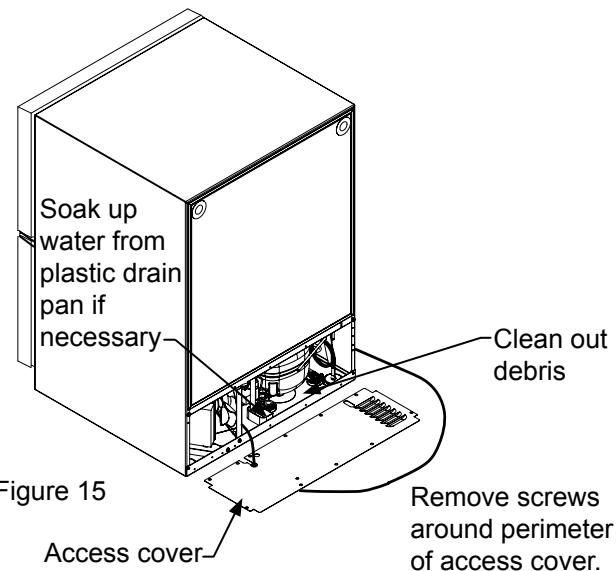

Figure 15
10. Remove the rear access cover, (see Figure 15), and use a brush and vacuum to clean dirt and debris from the machine compartment.